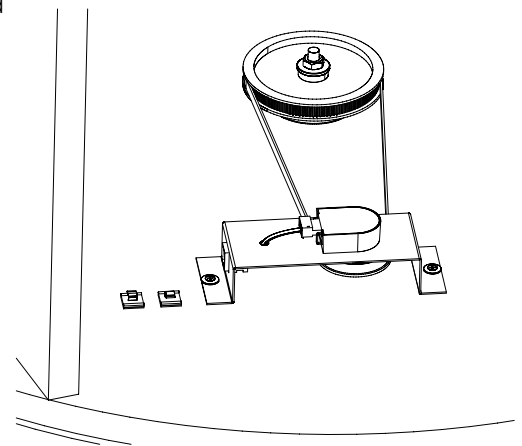
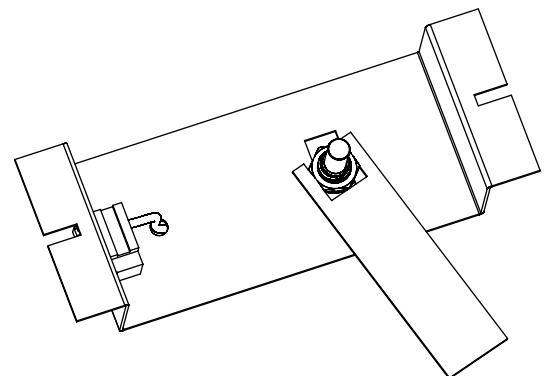

Fig. 3
Fig. 4
6) Install the timing belt around the smaller diameter pulley on the azimuth encoder shaft. Wrap the other end of the timing belt around the larger diameter azimuth pulley. Whilst ensuring the the belt stays engaged in the teeth of both pulleys, move the encoder bracket toward the open end of the rocker box and a few inches away from the inside left side of the rocker, as per Fig. 3, ensuring that the belt is snug. Mark a couple of points for the screws that will be used to fasten the bracket. Using the supplied screws and washers, mount the bracket to the inside base of the rocker. There is no need for the belt to be overly tight, simply snug. The encoder is mounted in a slot in the bracket via a hex nut and washer and can be adjusted to tension the belt correctly if need be as shown in Fig 4. The smaller pulley on the encoder can also be adjusted up or down the encoder shaft to match the height of the larger diameter pulley. A hex key is supplied for the set-screws found on the bores of the pulleys.